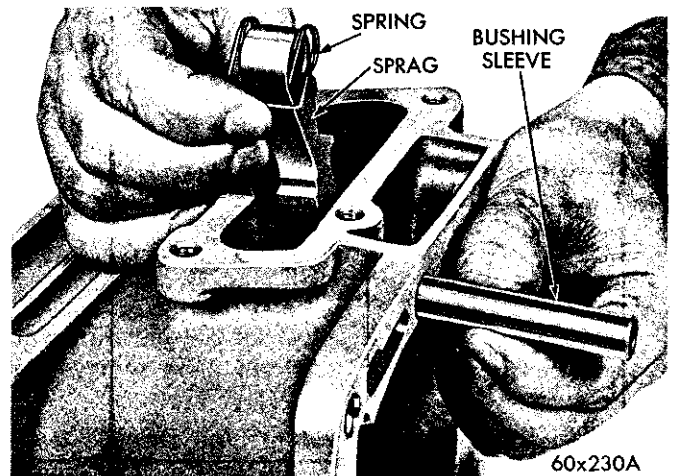

Fig. 44—Removing or Installing Parking Sprag
(5) Slide the bushing sleeve out of the housing to remove the parking sprag and spring (Fig. 44).
(1) Position the sprag and spring in the housing and insert the bushing sleeve (Fig. 44). Make sure the square lug on the sprag is toward the gear and the spring is positioned so as to lift the sprag away from the parking gear.
(2) Position the lock lever, spacer and cable adapter